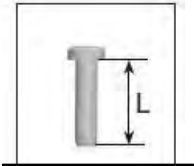
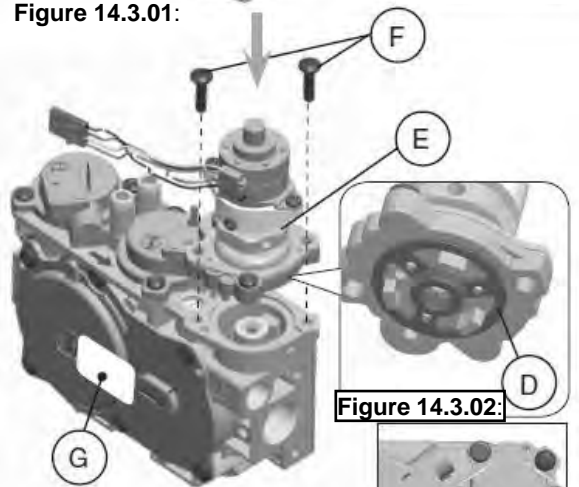
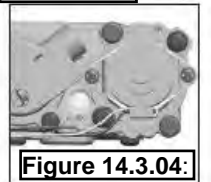

Figure 14.3.05:
Figure 14.3.03:
Figure 14.3.04:
4. Install the new STEPPER MOTOR pressure regulator assembly, as shown in **Figure 14.3.03** and **Figure 14.3.04**. Use the supplied screws (F), M4 x 0.7 threaded, length of thread $L = (16 \text{ mm} + 0 - 0.5 \text{ mm})$, steel material, resistance class 8.8 (see **Figure 14.3.05**).